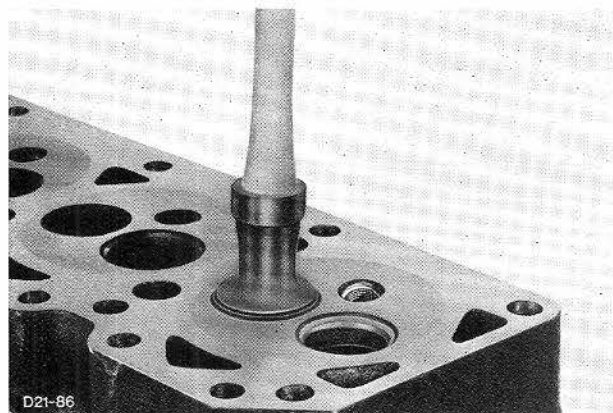

Fig. 81. Grind in valves.
9. Grind in valves in cylinder head, Fig. 81. Clean all traces of grinding paste off valves and valve seats, oil valves, valve seats and inserts. Continue as described above, starting with step 5 (valve stem seals).